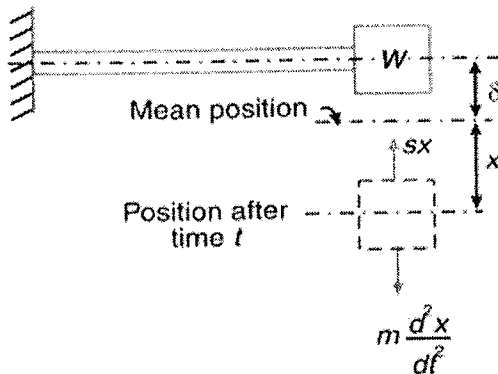

Figure 03
a. Show that the natural frequency of transverse vibrations, $f_n = \frac{1}{2\pi} \sqrt{\frac{s}{m}} = \frac{1}{2\pi} \sqrt{\frac{g}{\delta}}$ using Figure 03, where s is the stiffness of the constraint, m is the mass of the body, W is the weight of the body, δ is the static deflection of the constraint and x is the displacement given to the body.